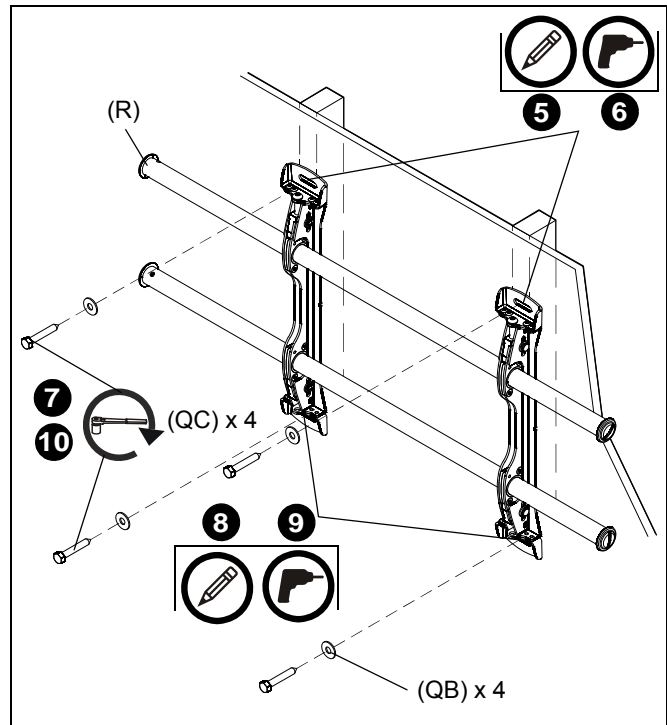

Figure 2
5. Using a level, mark the wall on each stud to attach the mount through the upper mounting slots. (See Figure 2)
7. Use two 5/16 x 2-1/2" lag bolts (QC) and two 5/16" flat washers (QB) to attach top of mount (R) to wall. (See Figure 2)
8. Mark the attachment points for the lower mounting slots, making sure the attachment points are located on the studs. (See Figure 2)
9. Drill 7/32" pilot holes at markings for lower mounting holes. (See Figure 2)
10. Use two 5/16 x 2-1/2" lag bolts (QC) and two 5/16" flat washers (QB) to attach the mount to the wall through the lower mounting holes. (See Figure 2)